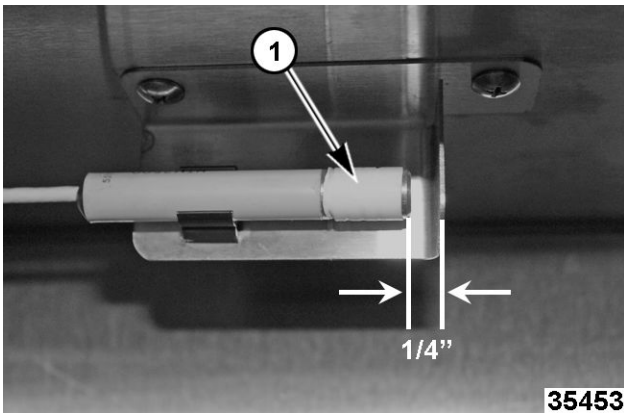

Fig. 63
9. Install humidity sensor into humidity sensor bracket. Make sure end of sensor is 1/4" from the end of bracket (Fig. 63).
NOTE: Do not remove protective covering (1, Fig. 63) from sensor.